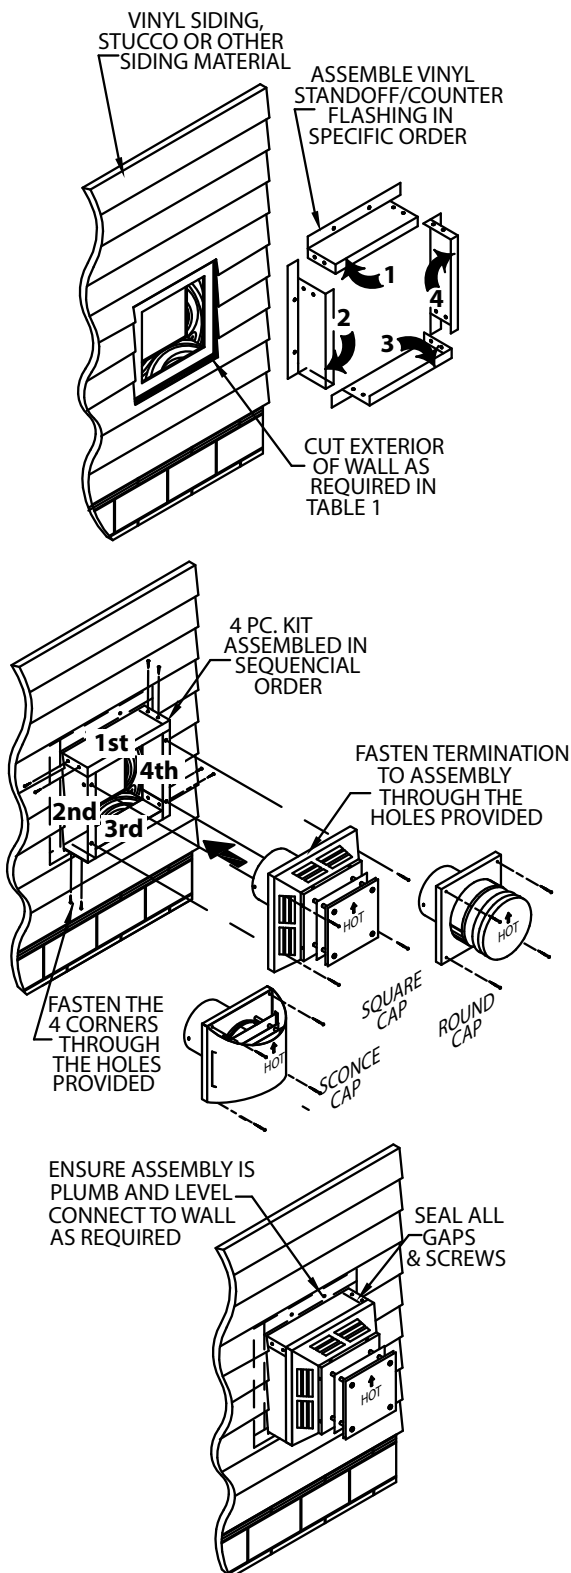

Figure 12
clockwise, place the left side, the bottom side, and then the right side around the opening in the siding. Refer to **Figure 12**.
**flashing:** Center the counter flashing on the wall around the framed penetration. Secure to the wall using the screws provided or other necessary connector depending on the wall material. Attach the Horizontal Cap to the Counter Flashing by lining up the holes in the cap with the holes in the Counter Flashing. Secure using the 4 long screws provided with the cap (**Fig. 12**).